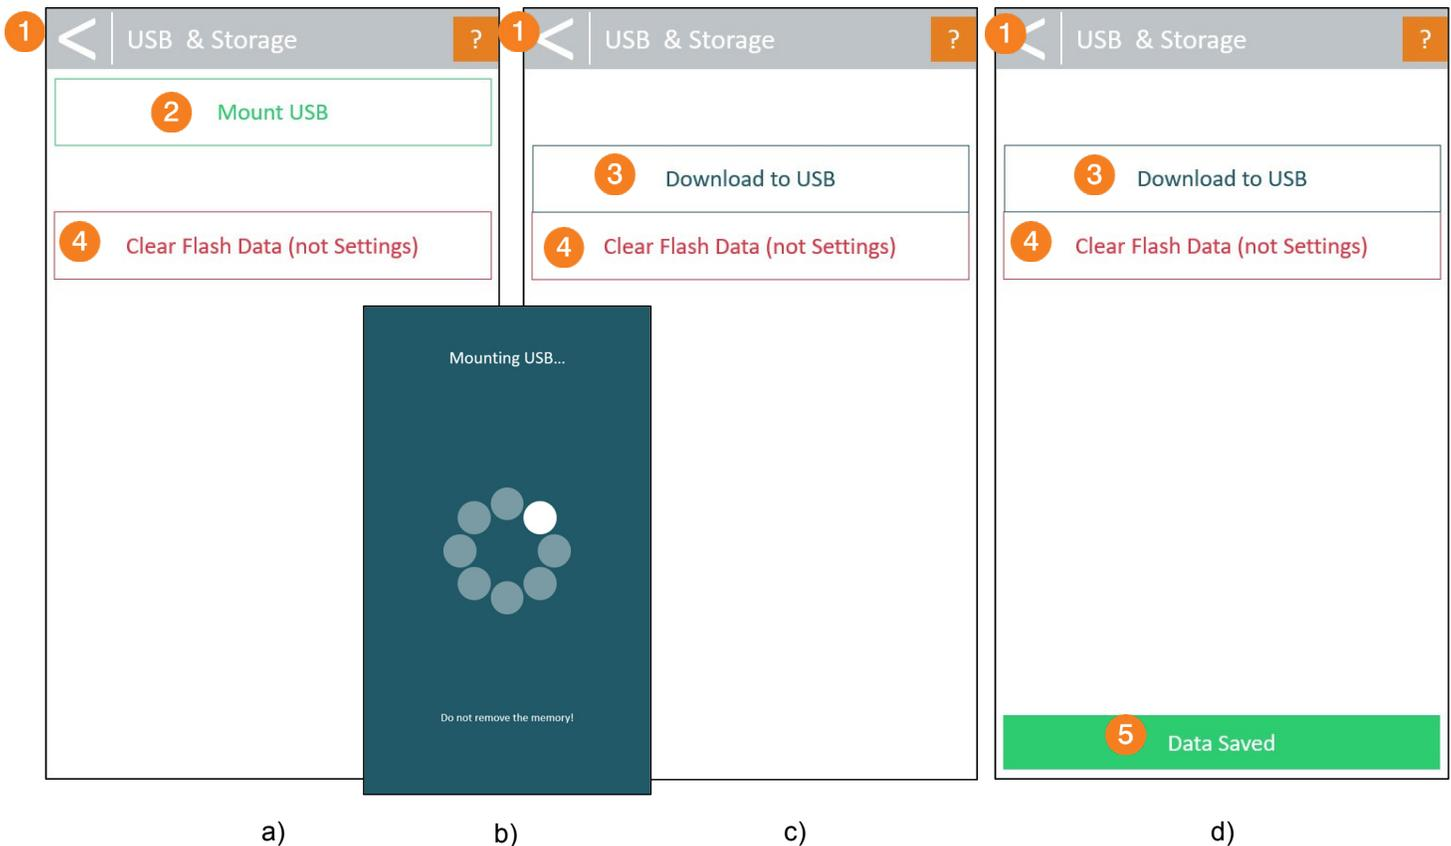

Figure 30 – USB & Storage Screen (on CLCS HMI only)
- 2 Mount USB:** Press this button to start the process. While the screen shown in Figure 30 b) is displayed, insert the USB flash drive into the appropriate port of the MicroView 4.0 Process Monitor (see the *VeriFast™ MicroView 4.0 User Manual* for illustration).